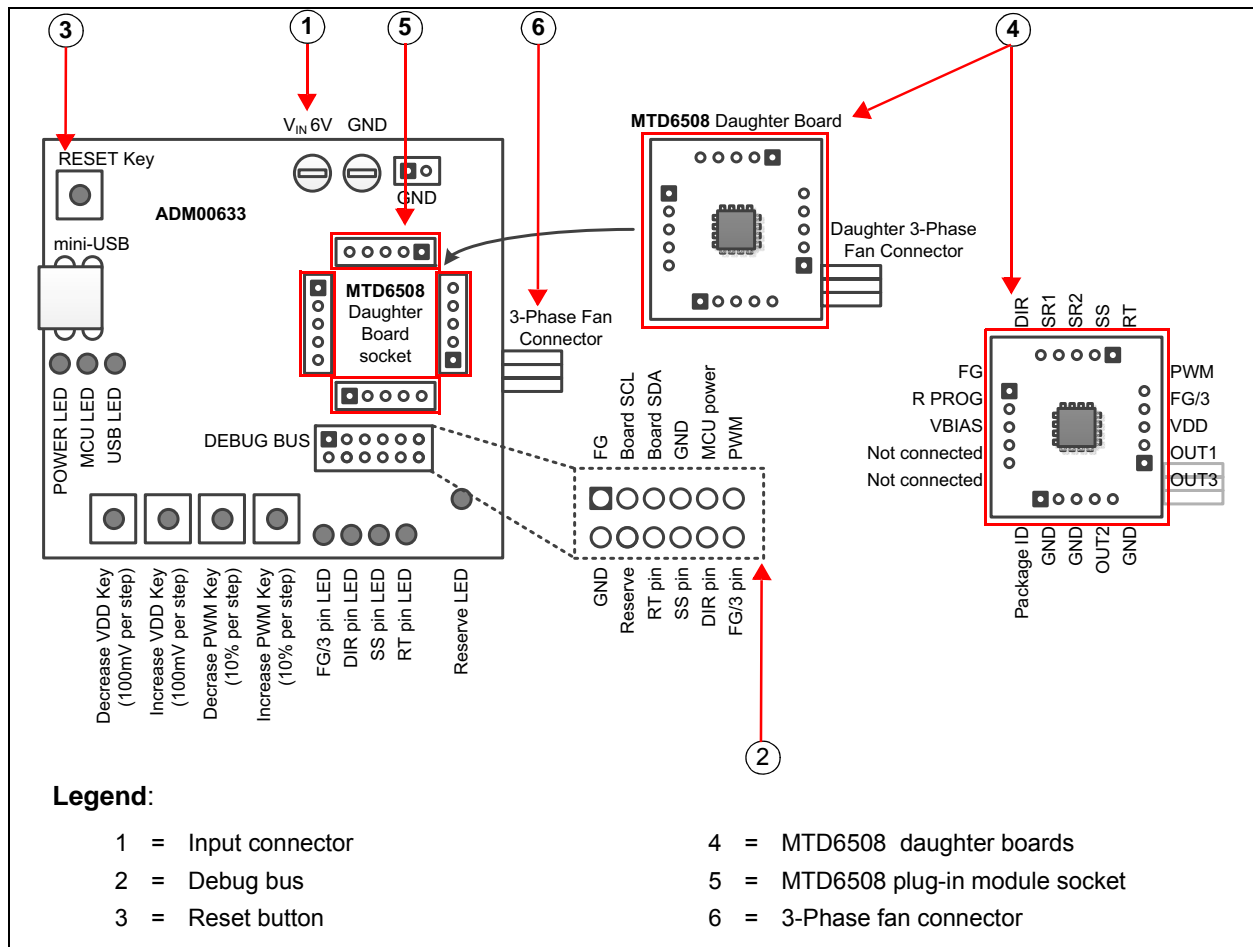

FIGURE 2-1: Top View – Hardware Components.
Figure 2-1 identifies the required points for using the MTD6508 Demonstration Board Kit.
1. Plug the MTD6508 daughter board into its dedicated socket on the MTD6508 motherboard (see Figure 2-1).
- Plug the MTD6508 daughter board into its dedicated socket on the MTD6508 motherboard (see Figure 2-1).